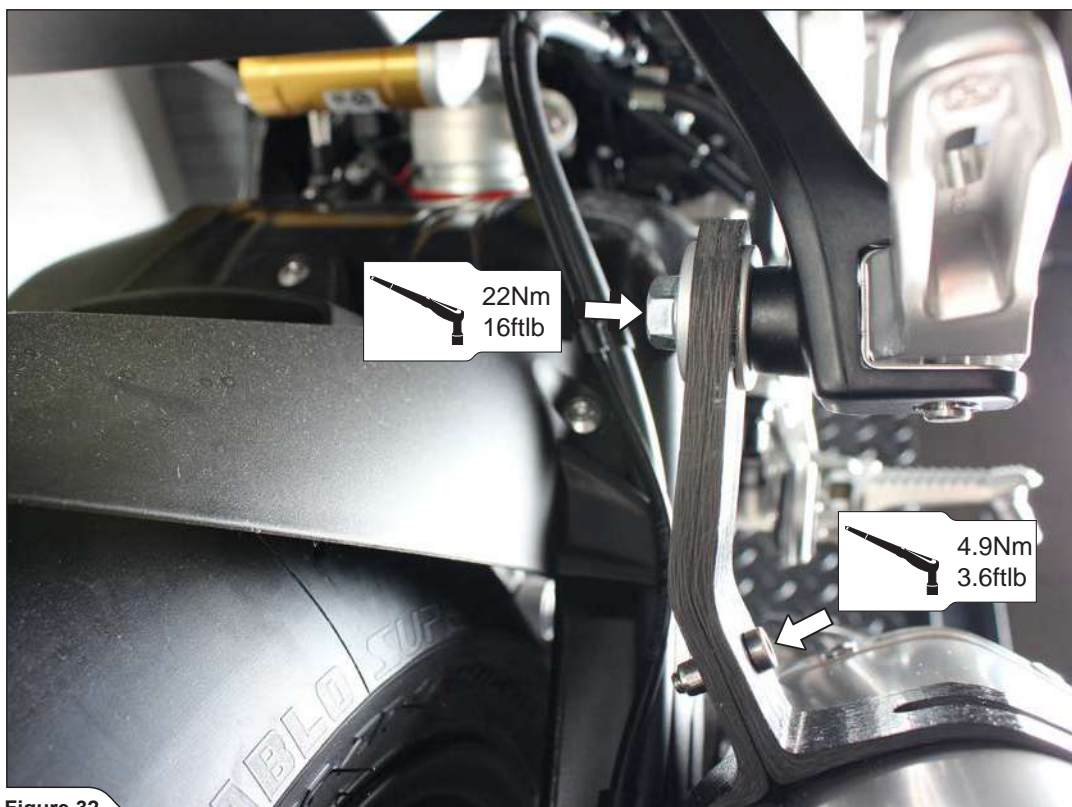

Figure 32
6. Reinstall the Slip-On systems muffler (without link pipe!); check the **Slip-On** exhaust system installation manual for details (**Figure 32**).